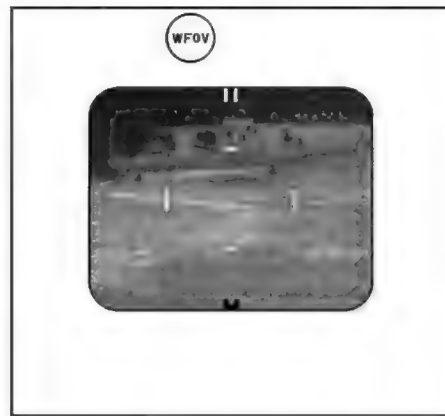

Figure E-45. Image adjustment for defensive position.
(5) **Image Adjustment.** The gunner can spot moving targets easily due to the hot IR signatures from the suspension, engine compartment, and exhaust, and due to the changes in the target aspect as the target moves in his sector of fire. When the gunner is in a defensive position, he adjusts the image so he can see all of the terrain features (Figure E-45). This procedure helps him locate any targets moving in his sector of fire.